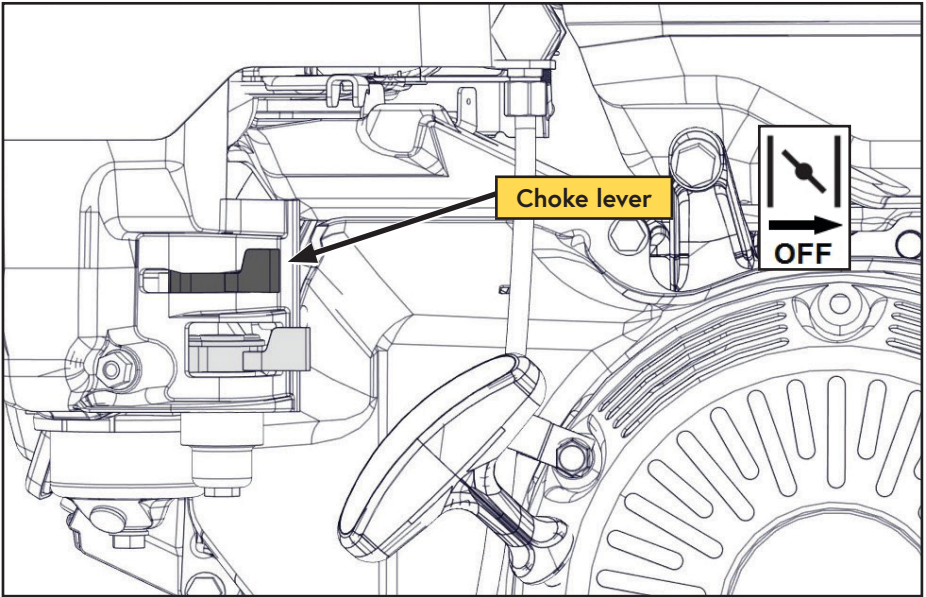

Figure 18 — Choke
- 7) Once the engine is running, gradually open the choke by moving the choke lever to the right as the engine warms up (Figure 18).